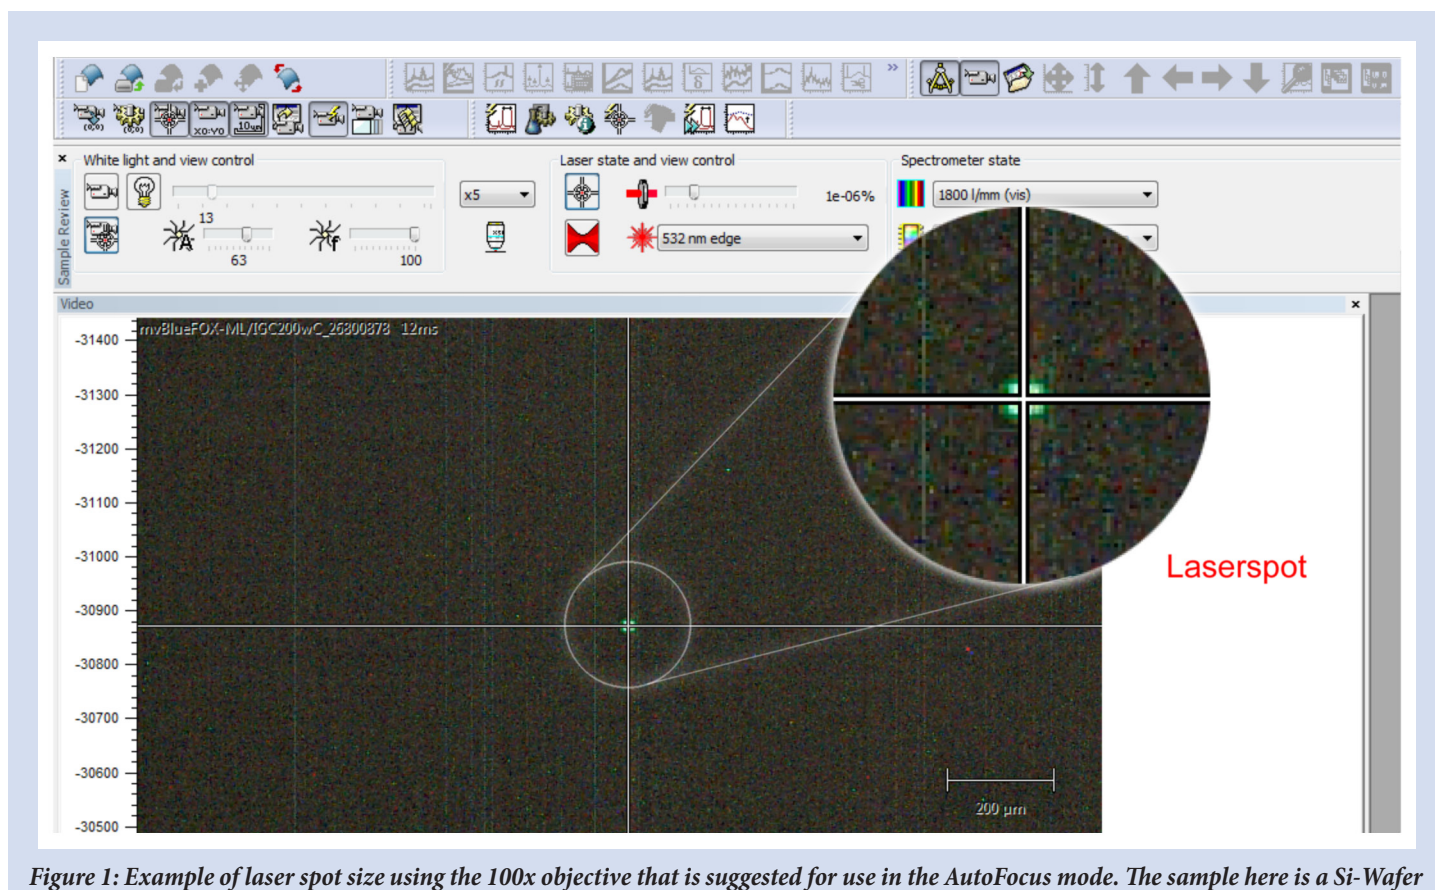
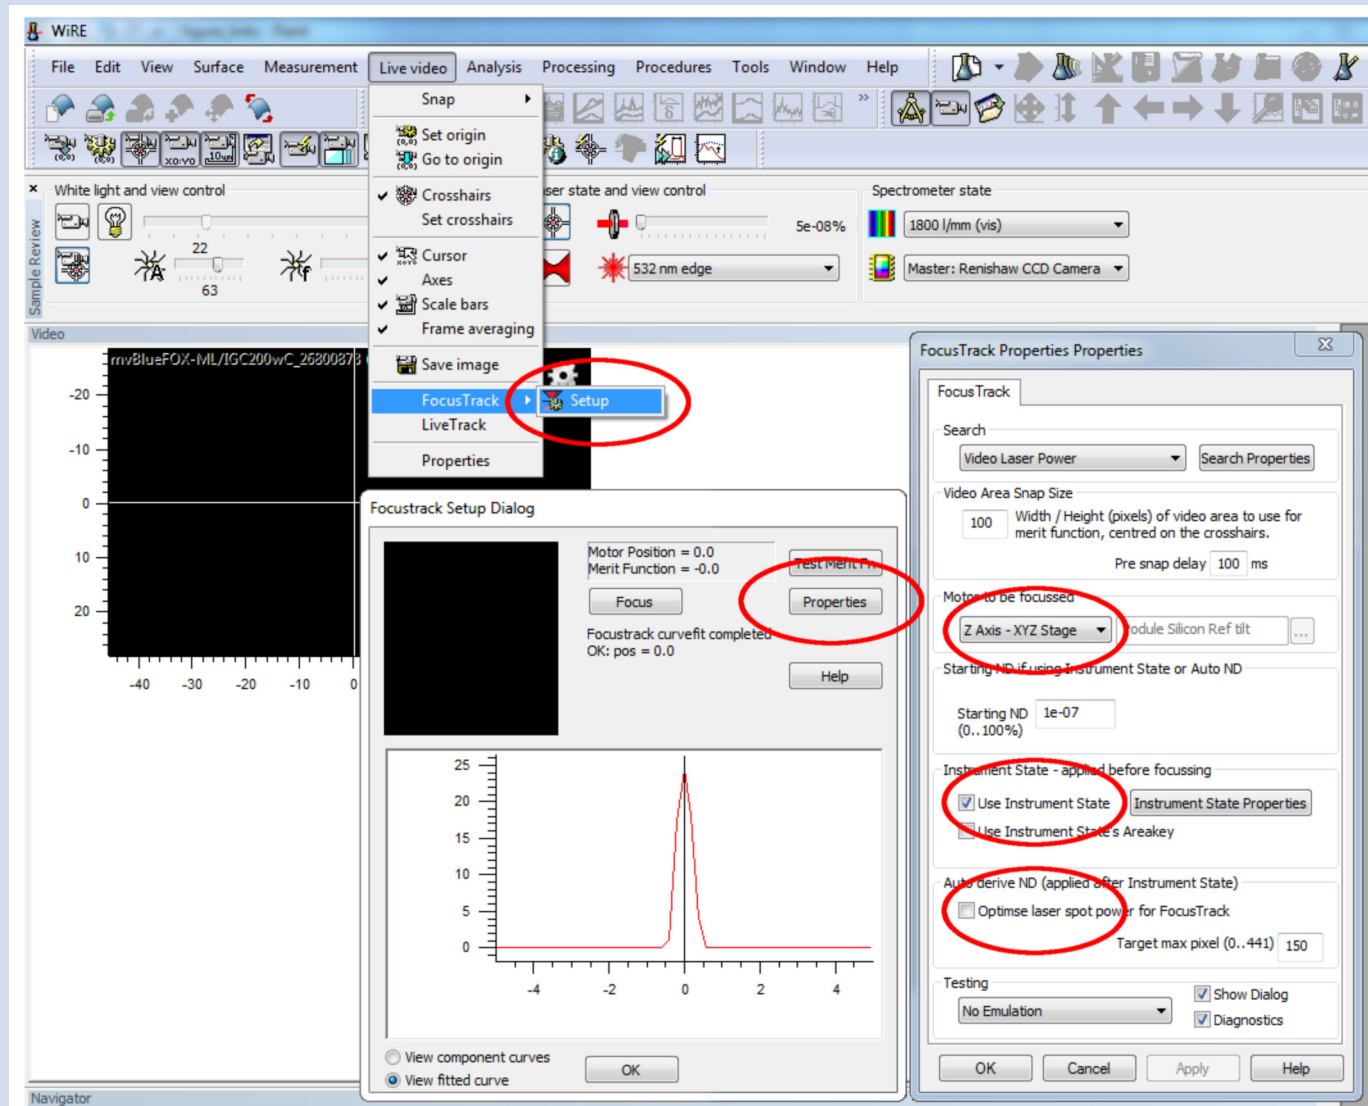

Figure 1: Example of laser spot size using the 100x objective that is suggested for use in the AutoFocus mode. The sample here is a Si-Wafer
Figure 2: top: select FocusTrack Setup; center: FocusTrack Setup dialog; right: FocusTrack Properties window.
3. The laser power for the drift correction should be chosen to be so low, that no Pixel of the camera is saturated. To find this value on a given surface turn off the illumination lamp while the sample is in focus, start at around „ $1e-07\%$ “ laser power (see **Starting ND** in the **FocusTrack Properties** window in Figure 2 right), and increase it stepwise until you see a small laser spot in the video image, as shown in Figure 1.
4. Select **Live video** > **FocusTrack** > **Setup**, see Figure 2 top.
5. Click on **Properties** in the newly opened window, see Figure 2 center.
6. A new dialog window will open. Adjust the setting to match the ones shown on the right of Figure 2 and then click on **Search Properties**.
9. Close the FocusTrack Instrument State Parameters Properties windows and start a test run by clicking on **Focus**, see Figure 2 center.